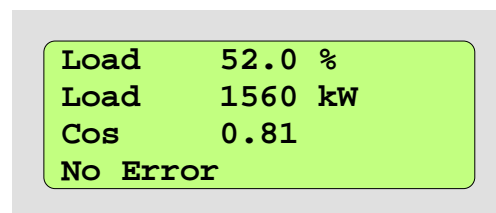

Figure 2: LCD in Measurement Window Mode
- in Measurement Window Mode; for this mode refer to section ↑ 4.3 Measuring Window Mode, configuration of the display as in Figure 2, and